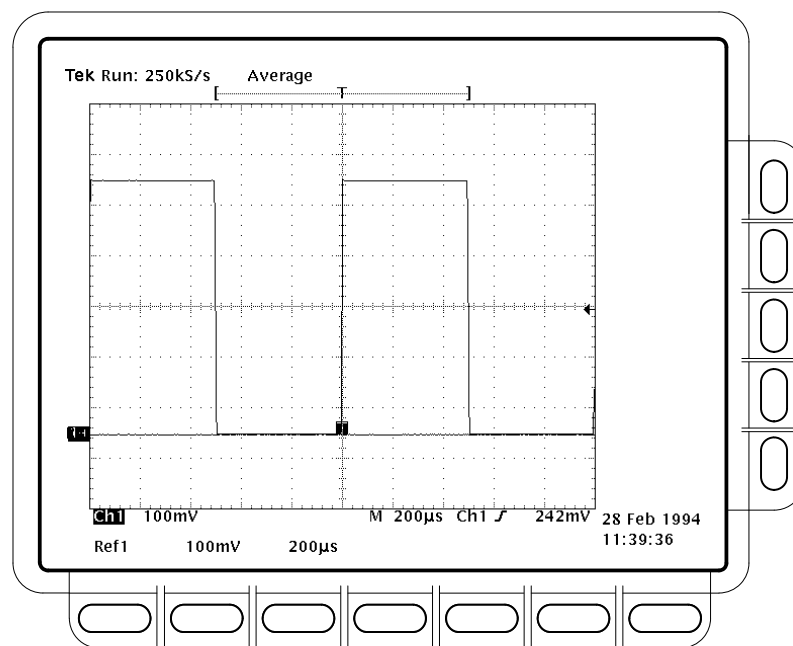

Figure 1–24: Measurement of Probe Compensator Amplitude
- f. Press **CLEAR MENU** to remove the menus from the display. See Figure 1–24.